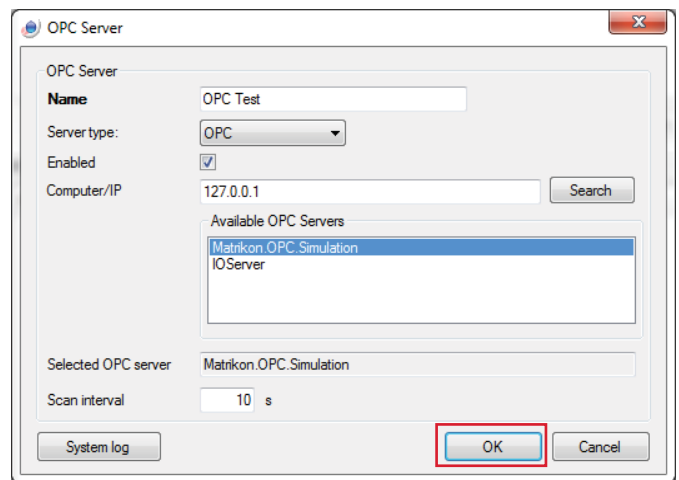

Fig. 4. Enter the OPC Server information.
- From the **OPC Server** window (→ fig. 4):